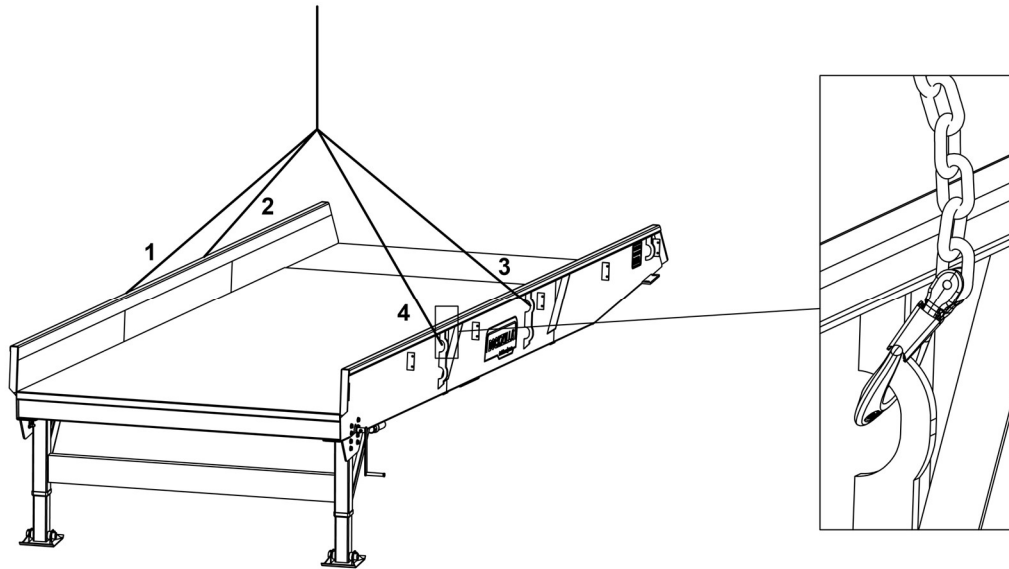

Figure 2a: Offloading with a Crane
- a. **CRANE / TELEHANDLER WITH LIFTING HOOK (PREFERRED):** Attach 6ft straps with clevis (preferred) or chains to the four lift points located on the sides of the ramp (Figure 2a). Slowly lift the ramp from the trailer, move it to the desired location, and carefully place it on the ground.